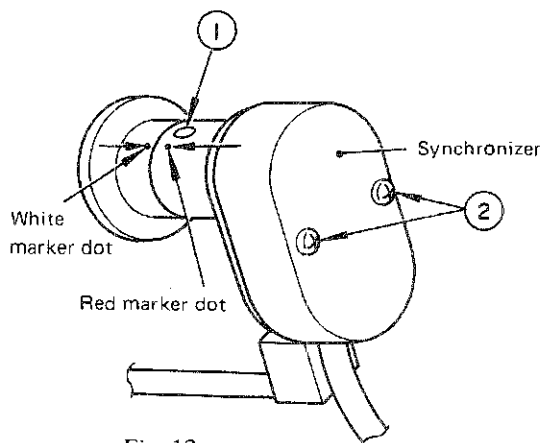

Fig. 13
- ① Loosen the two screws ①, and align the red dot engraved on the synchronizer with the white dot engraved on the flange (or the dot engraved on the handwheel if the model does not have a flange). Then, tighten the two screws. (See Fig. 13)
- ② Operate the machine to move the needle to its upper stop position. If the red dot on the arm is between the two white dots on the handwheel, loosen the two screws ① and perform fine adjustment of the stop position.
- ① Remove the two screws ② shown in Fig. 13, and take the cover off.